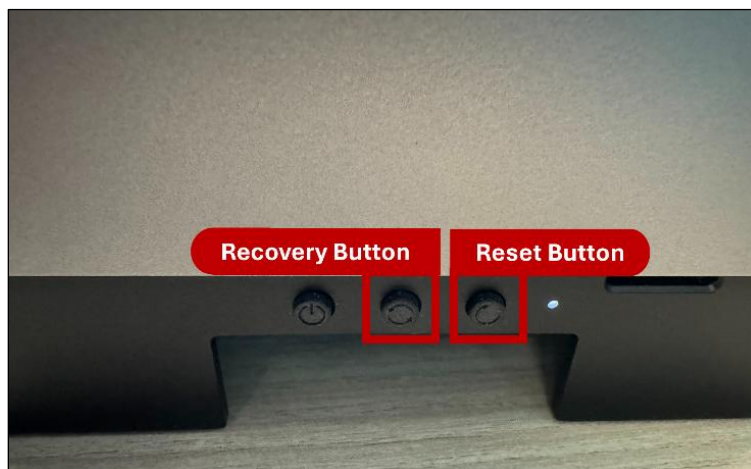

Figure 6.4. Recovery and Reset Button
3. Place the AGX Orin into recovery mode by pressing and holding the recovery button as shown in Figure 6.4. While holding the recovery button, press the reset button and release it. Wait for about three seconds or more, then release the recovery button.
11. Complete **STEP 04 – SUMMARY FINALIZATION** to finish the setup. Reset the Jetson AGX Orin system by pressing the reset button as shown in Figure 6.4. Then proceed to the next section to configure the Jetson AGX Orin itself.